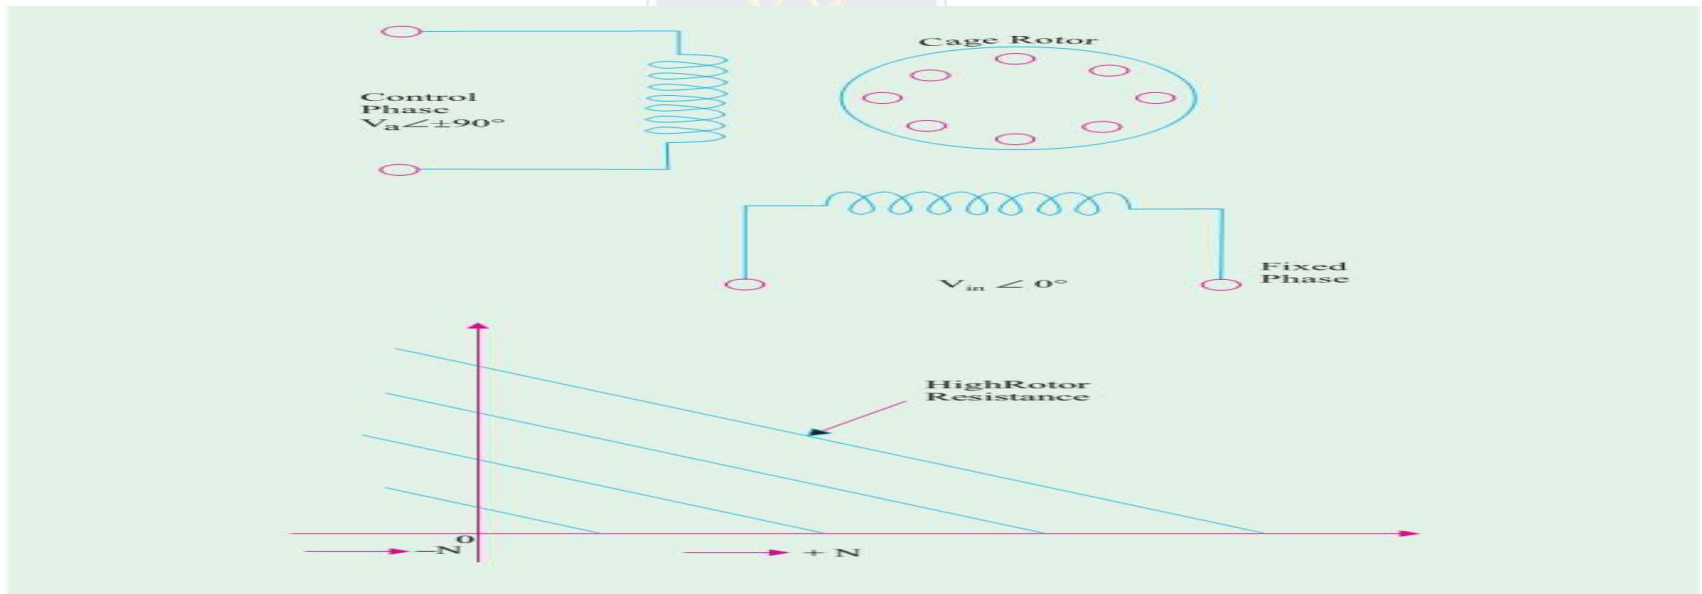

Fig. 39.27
- The main winding (also called the reference or fixed phase) is supplied from a constant voltage source, $V_m \angle 0^\circ$ (Fig. 39.27). The other winding (also called the control phase) is supplied with a variable voltage of the same frequency as the reference phase but is phase-displaced by 90° (electrical).